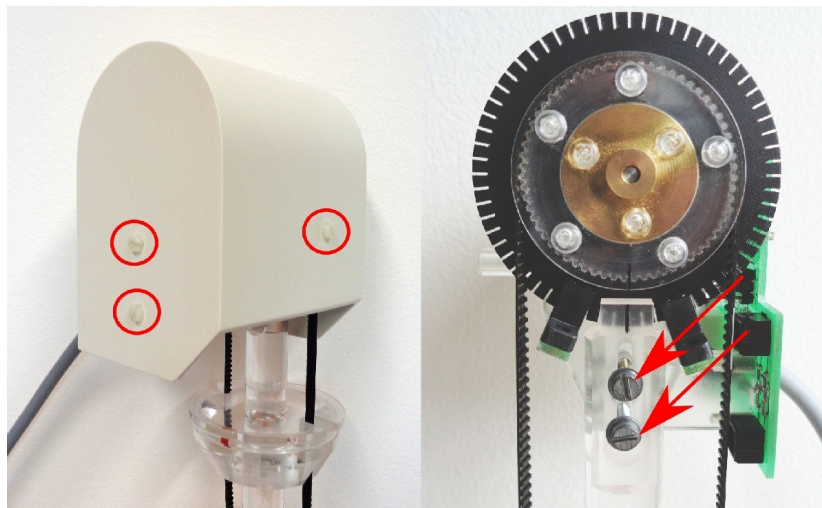

Figure 10: Left - white lid; Right - screws for belt tension
2. Unscrew three plastic screws on the lid of the 3D-Rotator, marked by red circles in Fig. 10. Pull the lid gently up to remove it.
4. Loosen a little bit two screws for belt tension, but do not remove them. Screws are marked by red arrows in Fig. 10 (right side).
4. To set proper belt strain loosen two metal screws marked by red arrows in Fig. 10. After adjustment tighten the screws.